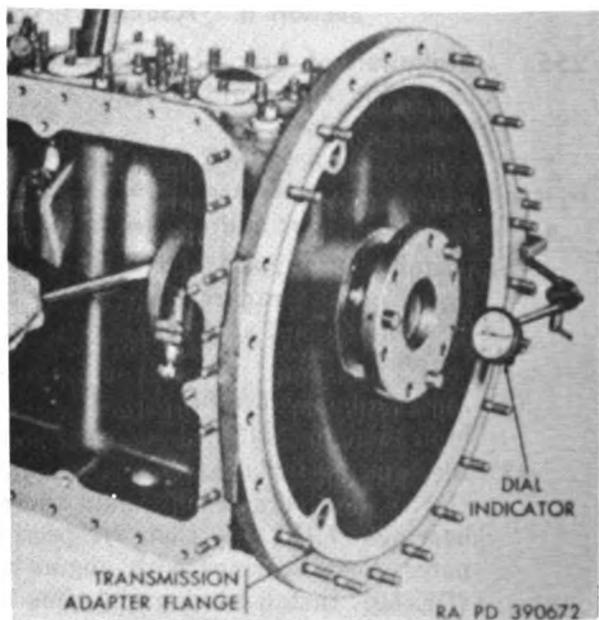

Figure 171. Checking crankshaft end play.
- (9) Install eight  $\frac{5}{16}$  x  $2\frac{1}{32}$  hex-head bolts (FF) and  $2\frac{1}{64}$  id,  $\frac{9}{16}$  od, 0.0630 thick flat washers (X) through holes in crankcase top flange, from left crankcase side. Secure bolts with  $\frac{5}{16}$ -inch hex self-locking nuts (B), or  $\frac{5}{16}$ -inch hex nuts (B), and  $2\frac{1}{64}$  id,  $\frac{9}{16}$  od, 0.0630 thick flat washers (C). Tighten nuts snugly but do not torque.
- (10) Before proceeding further with assembly of crankcases, check crankshaft end play as described in (a) and (b) below.
- (a) Install a dial indicator on transmission adapter flange, with needle of indicator touching flywheel mounting flange on crankshaft as shown in figure 171.